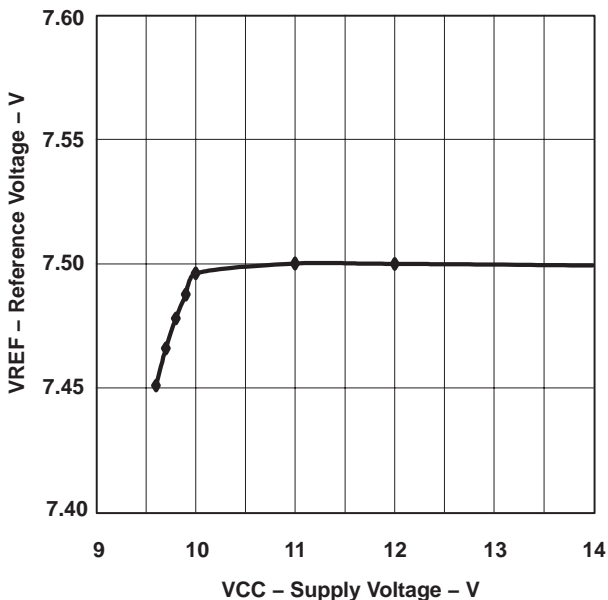

Figure 2
(2) Reference variation for  $V_{CC} < 10.8\text{ V}$  is shown in Figure 2.
(2) Reference variation for VCC < 10.8 V is shown in Figure 2.